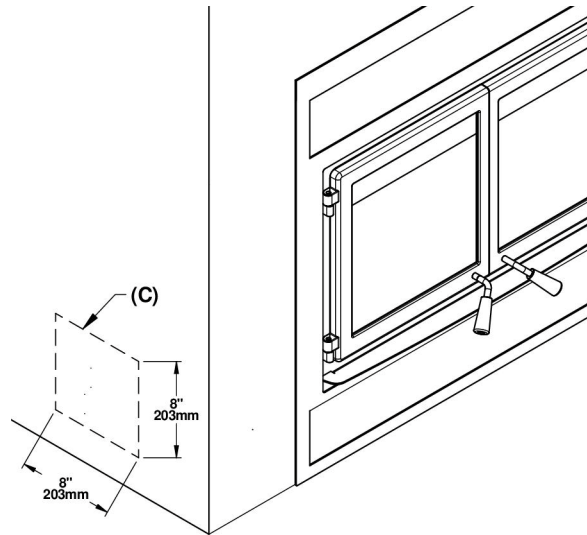

Figure 2 : Grill location
1. Drill holes in the finishing material following dimensions on Figure 2.